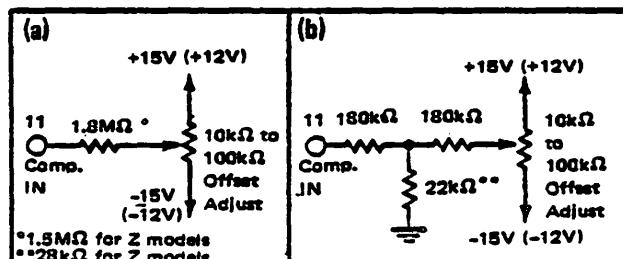

FIGURE 9. Two methods of connecting optional offset adjust with a 0.4% of FSR range of adjustment.
Gain and Offset errors may be trimmed to zero using external gain and offset trim potentiometers connected to the ADC80 as shown in Figures 9 and 10. Multiturn potentiometers with  $100\text{ppm}/^{\circ}\text{C}$  or better TCR's are recommended for minimum drift over temperature and time. These pots may be any value from  $10\text{k}\Omega$  to  $100\text{k}\Omega$ . All resistors should be 20% carbon or better. Pin 16 (Gain Adjust) may be left open if no external adjustment is required.
**OFFSET** - Connect the OFFSET potentiometer as shown in Figure 9. Sweep the input through the end point transition voltage that should cause an output transition to all ones.